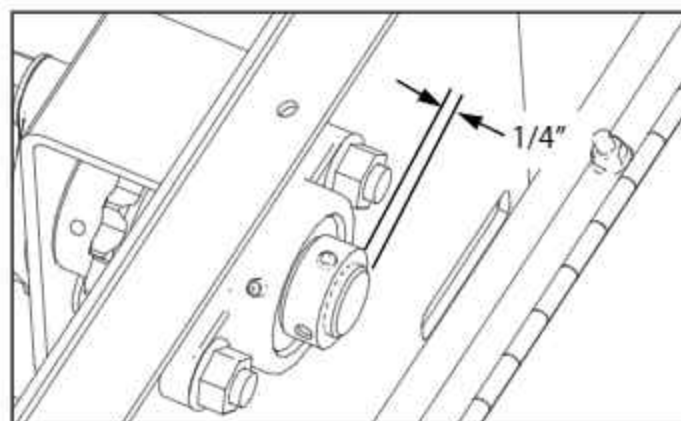
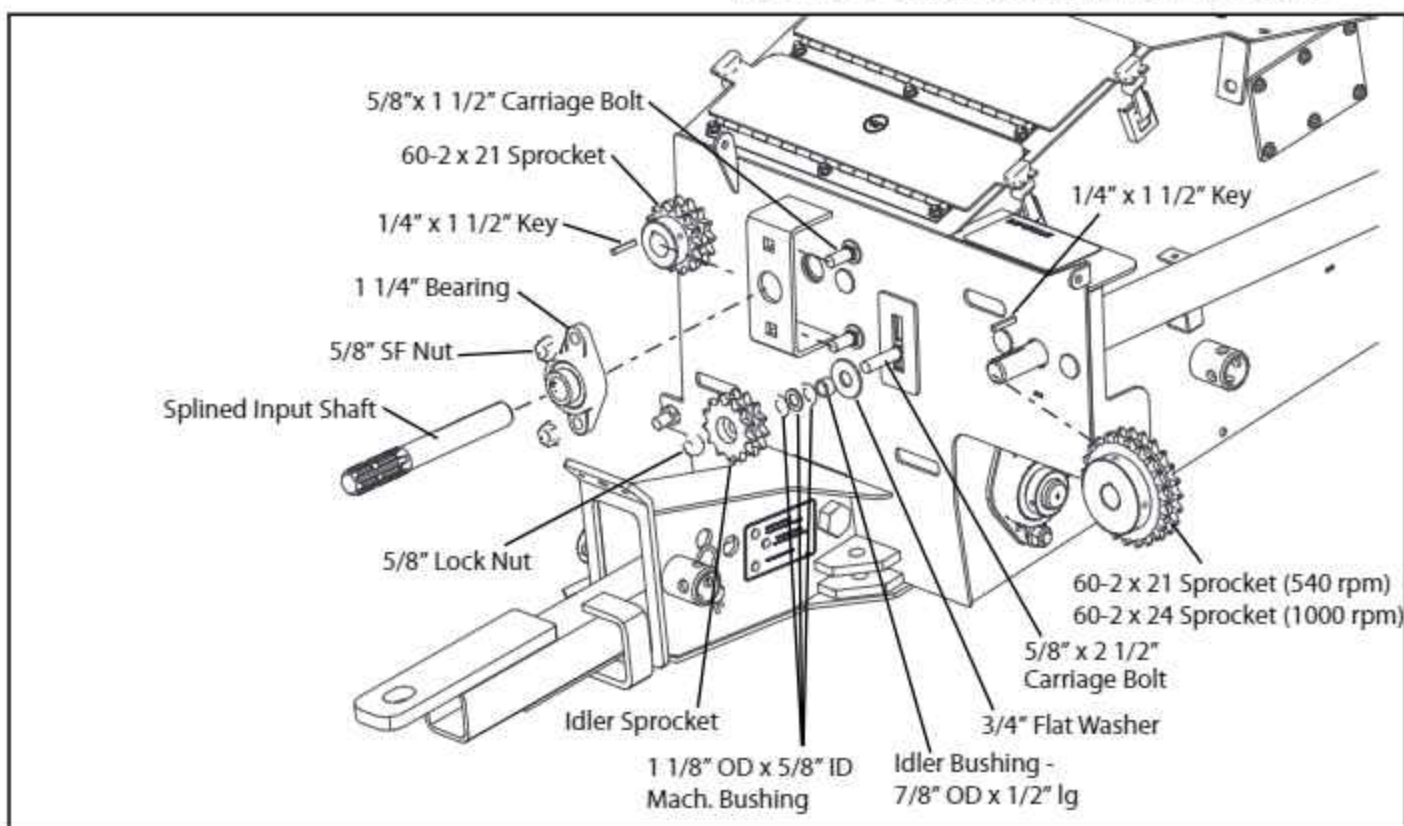

FIG. 3-59. Positioning the Splined Input Shaft
FIG. 3-60. End Drive Input Shaft Assembly
22. Position the 60-2 x 21 tooth Sprocket between the boot plate and the bearing mount bracket and push the Input Shaft through it and the bearing inside the boot. Position the shaft so there is 1/4" of shaft past the lock collar of the bearing inside the boot as shown in Fig. 3-59. Fasten the outer bearing in place using two 5/8" x 1 1/2" carriage bolts and serrated flange nuts. See Fig. 3-60.
23. Insert the 5/8" x 2 1/2" carriage bolt through the slot in the back wall of the boot, from the inside, as shown in Fig. 3-60.